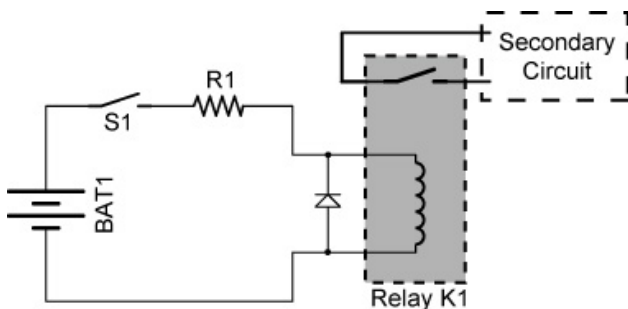

Figure 4: De-energized Relay
- Action: When the control circuit of a relay energizes the coil, the coil's attraction force pulls a lever arm called an armature toward the coil. This action turns the secondary circuit on and off. See Figures 4 and 5.